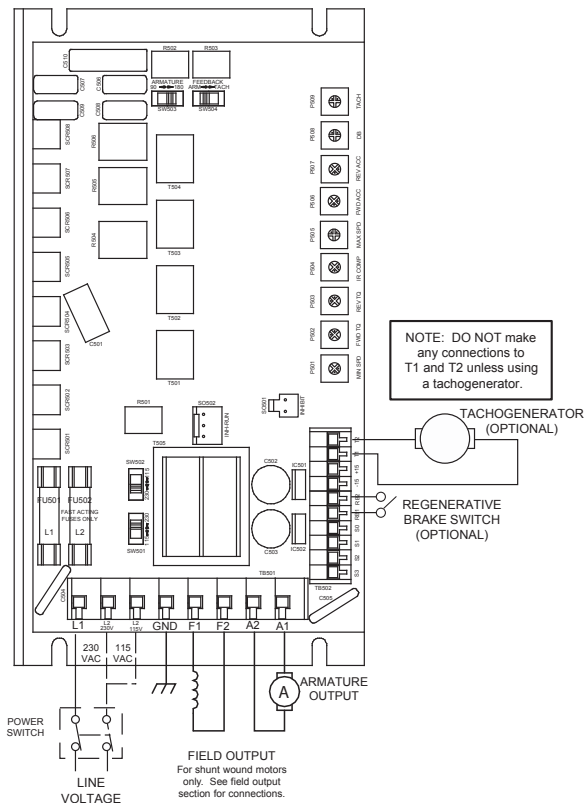

Figure 11. RG500UA and RG510UA Connections
**Minarik Drives strongly recommends the installation of a master power switch in the voltage input line, as shown in Figures 11 and 12 on pages 24 and 25.** The switch contacts should be rated at a minimum of 200% of motor nameplate current and 250 volts.
For chassis models, connect the AC line power leads to terminals L1 and L2 (115) if using a 115 VAC line or to terminals L1 and L2 (230) if using a 230 VAC line. Minarik Drives recommends the use of a single-throw, double-pole master power switch. The switch should be rated at a minimum of 250 volts and 200% of motor current. Refer to Figures 11 and 12 on page 24 and 25.
Connect a DC motor to terminals A1 and A2 as shown in Figures 11, 12 and 13 on pages 24, 25 and 26. Ensure that the motor voltage rating is consistent with the drive's output voltage.
Using tachogenerator feedback improves speed regulation from approximately 1% of motor base speed to approximately 0.1% of motor base speed. Use tachogenerators rated from 7 VDC per 1000 RPM to 50 VDC per 1000 RPM. Connect the tachogenerator to terminals T1 and T2 of terminal block TB502. The polarity is positive (+) for T1 and negative (-) for T2 when the motor is running in the forward direction. Place SW504 in the TACH position. See Figures 11, 12 and 13 on pages 24, 25 and 26 for tachogenerator connections. The TACH trim pot must be adjusted prior to operating with tachogenerator feedback. Refer to the Calibration section for instructions on calibrating the TACH trim pot.
For this reason, Minarik Drives strongly recommends installing an emergency stop switch on both AC line inputs (see Figures 11 and 12 on pages 23 and 24).
Short the RB1 and RB2 terminals to regeneratively brake the motor to zero speed. See Figures 11, 12 and 13 on pages 24, 25 and 26. The RB1 and RB2 circuit follows the deceleration rate set by the FWD ACC and REV ACC trim pots. Open the RB1 and RB2 terminals to accelerate the motor to set speed.